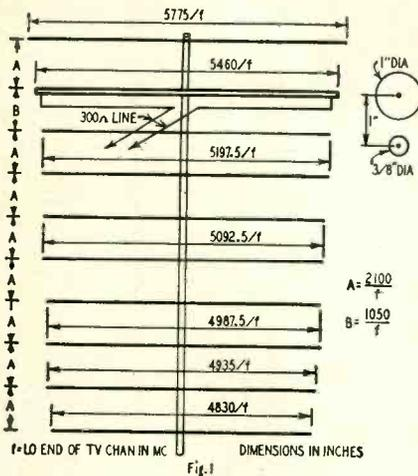

Fig. 1—Diagram of 10-element Yagi.
A. The diagram (Fig. 1) shows the construction of a 10-element Yagi with constants which may be used to find the dimensions in inches for any frequency for which a Yagi is practical. Simply divide the constants by  $f$ , the low-fre-